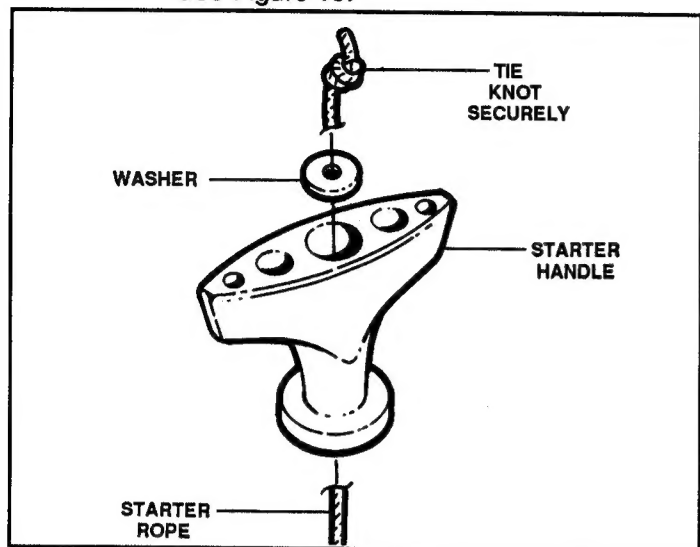

FIGURE 15
11. Feed the starter rope through the rope guide and seat the drum securely against the starter. Torque drum screw to 18 - 21 in. lbs. Insert rope through handle, install washer, and knot end of rope securely. See Figure 15.